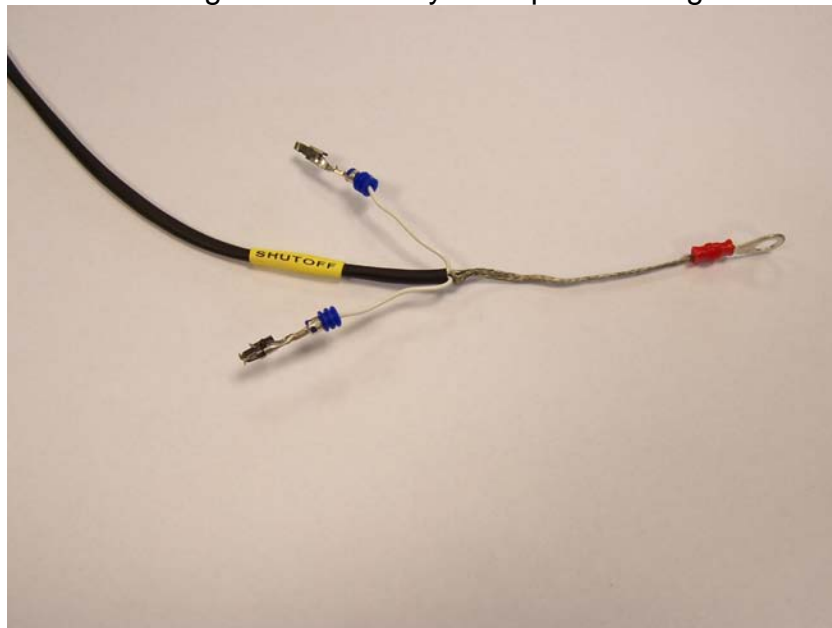

Fig. 1 – after removal of connector
1. Remove shutoff connector housing by extracting the crimps using an extraction tool resulting in an assembly as depicted in Fig. 1.